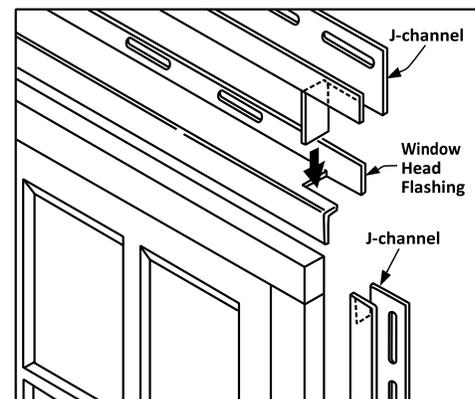

Figure 34.
- Install rigid head flashing (i.e., drip cap) on top of the top piece of exterior casing, covering trim sheet installed in the previous step. The ends of the rigid head flashing must extend to the outer edges of the exposed legs of the side J-channels. Cut a notch on the ends of the rigid head flashing and bend them down over the sides of the exterior casing. The rigid head flashing must be sealed to the exterior sheathing and to the top of the exterior casing (Fig. 34).